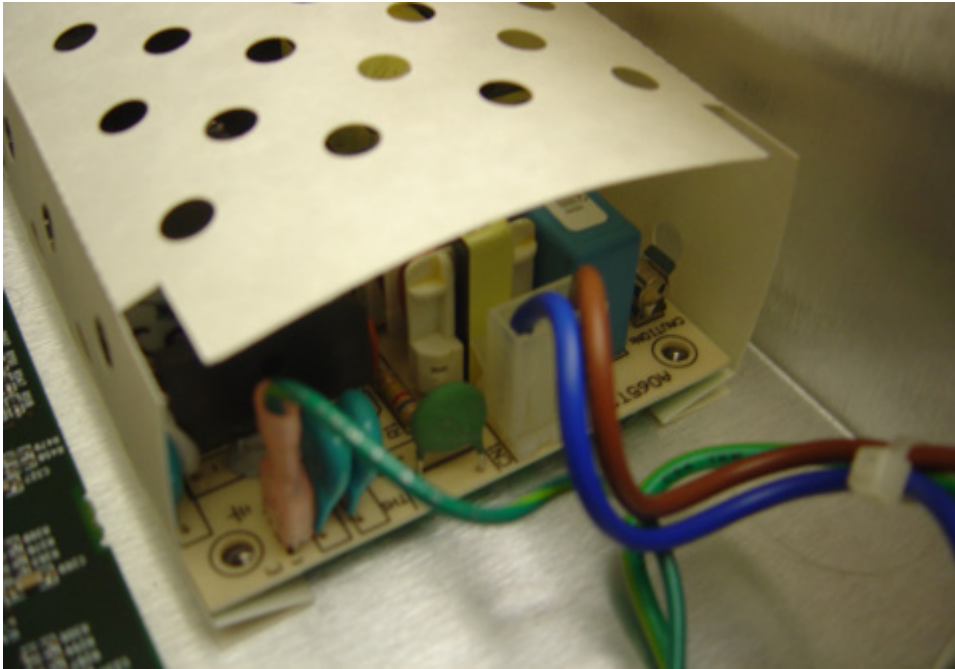
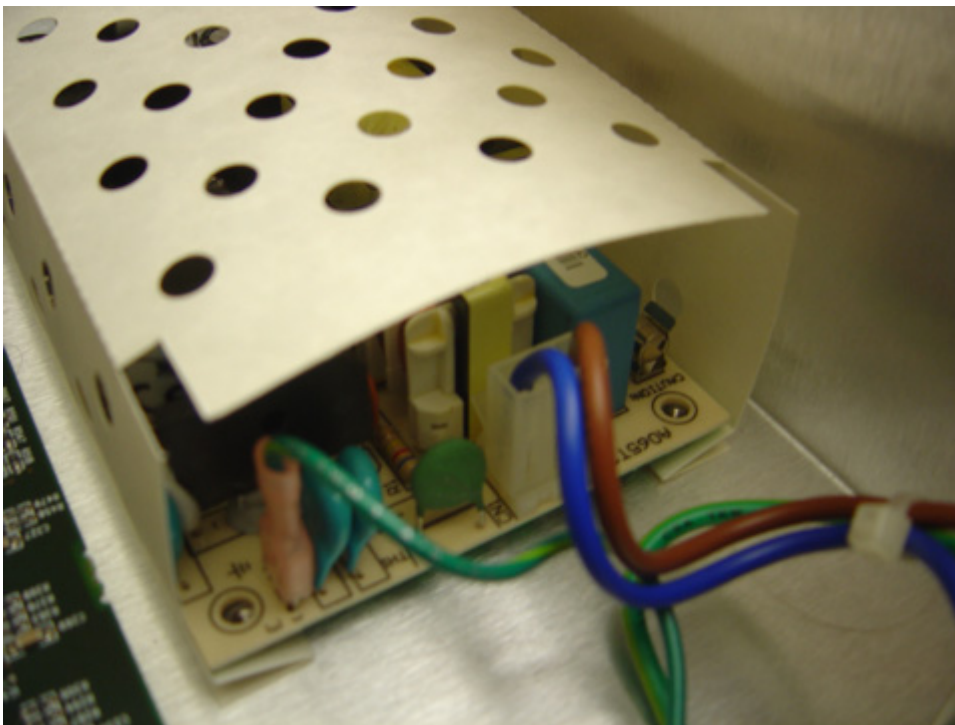

Figure 7 Protective Cover Started Under the AC End of the Power Supply Module
Figure 8 Power Supply Module in Place Ready to Be Secured
14. Figure 7 shows the AC end of the protective cover started under the power supply. Figure 8 shows the AC end of the power supply in position for the screws.